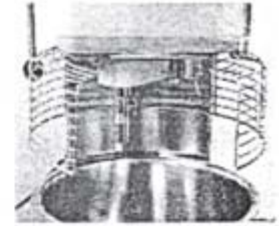

Fig. 3
1. Rotate the bowl guard so that it rests in the open position as shown in fig. 3 and lower the bowl to its resting position.